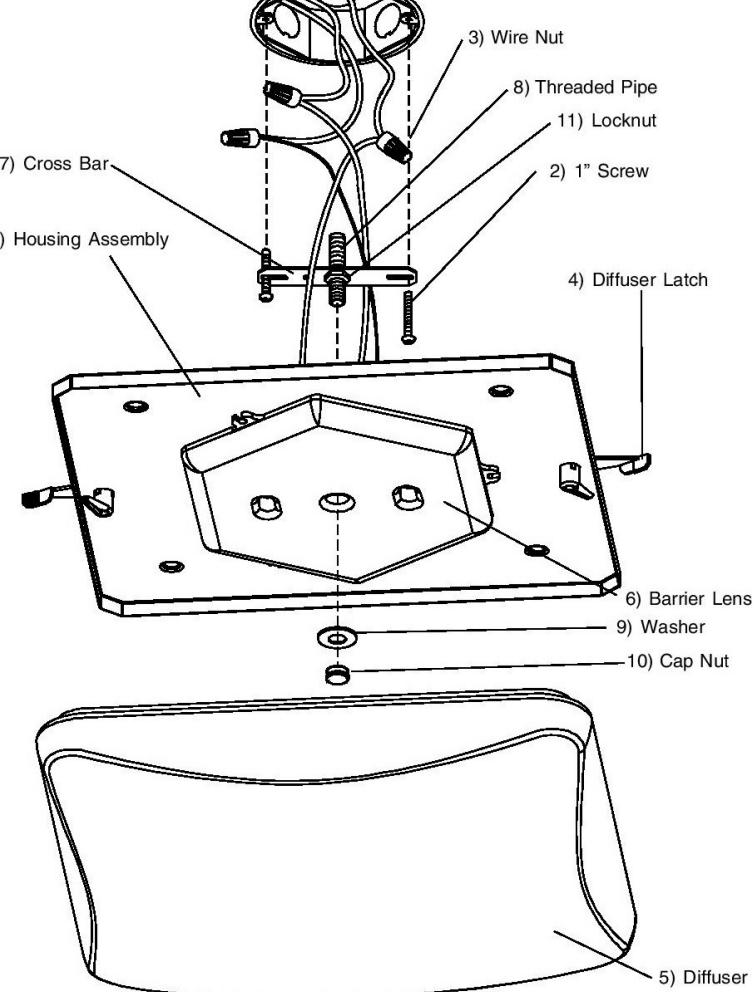

Figure 1
**4. With the power turned off, hold the fixture Housing Assembly (1) firmly and connect the green ground wire from the fixture to the bare copper ground wire from the junction box using a Wirenut (3). (If house wiring does not include a ground wire, consult your local electrical code for approved grounding methods). See Fig. 1.**
**5. Use Wirenuts (3) to connect black fixture wire** to the black power supply wire and white fixture wire to the white power supply wire. **See Fig. 1.**
**6. Hold Housing Assembly (1) in one hand and with the other hand position wires up and into outlet box.**
**7. Align Threaded Rod (8) with center hole on Housing.** Push Housing Assembly (1) to ceiling surface. Install Washer (9) onto Rod (8) and secure fixture with Cap Nut (10).
**Note: Cap nut (10) should be hand-tighten only. Do not over tighten.**
**WARNING: RISK OF SHOCK- Do not operate fixture without Barrier Lens (6) installed.**
**8. To install Diffuser (5)-** position diffuser flange inside Housing Assembly (1), pivot Diffuser Latches (4) inward to captivate Diffuser (5).